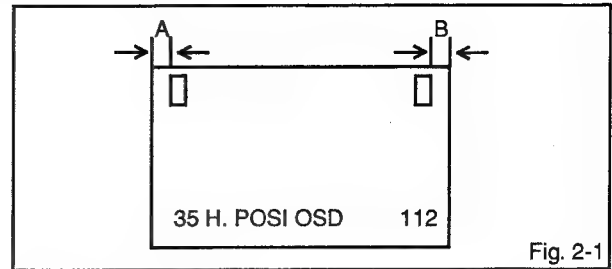

Fig. 2-1
3. until then difference of A and B becomes minimum. (Refer to Fig. 2-1)